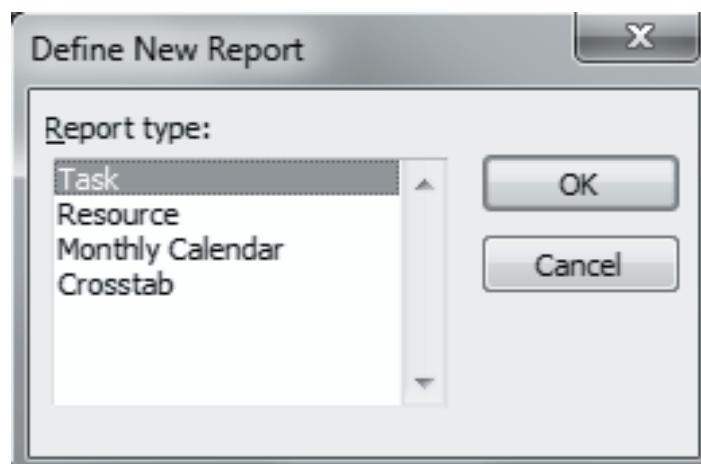

Figure 13.4: Define New Report Dialog Box
- To create a report that is not based on any report: Click the **New** button and click one of the categories in the **Define New Report** dialog box as shown in figure 13.4.